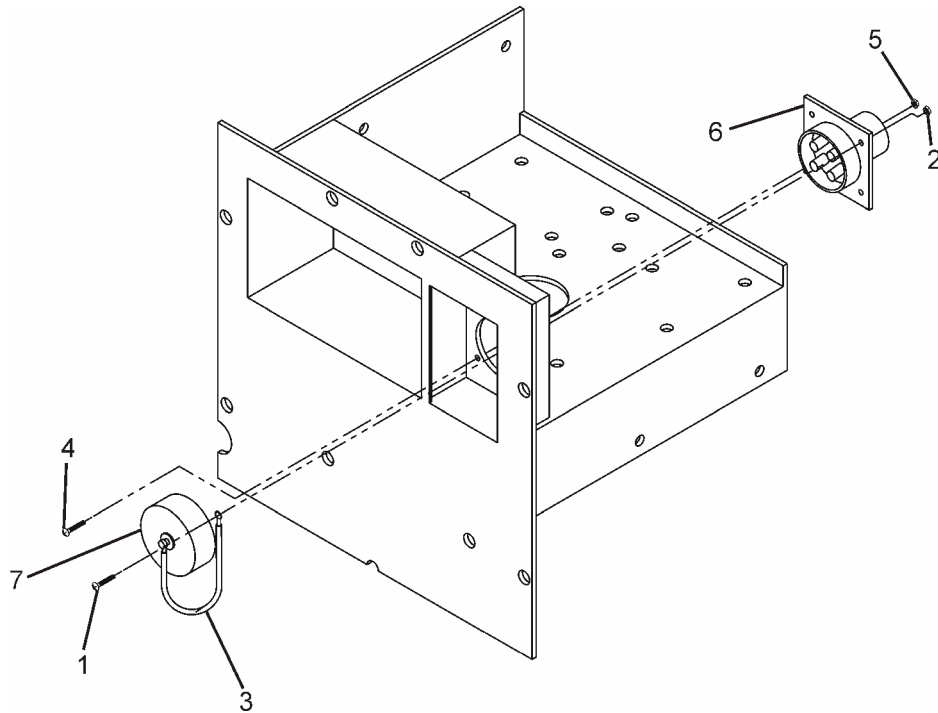

Figure 1. J1 Connector
3. For J1 connector removal, remove one screw (1) and nut (2) that attaches eyelet of J1 cover wire (3). See figure 1.
4. Remove three screws (4) and nuts (5) to remove J1 connector (6) and cover (7).